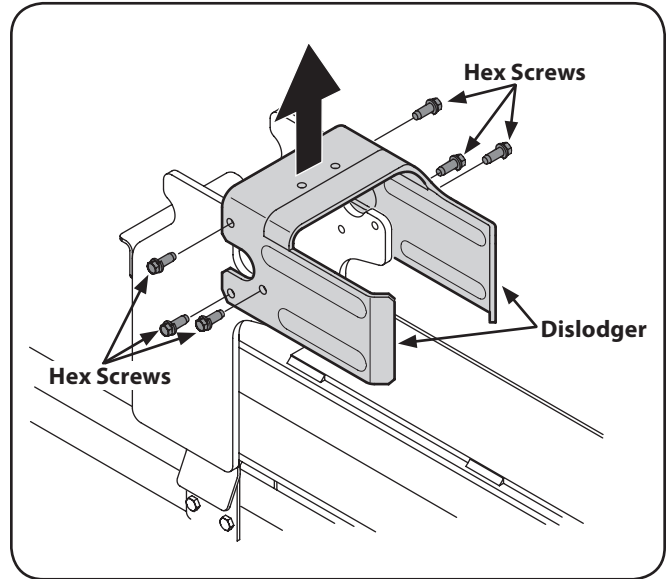

Figure 3-4
- Disconnect the dislodger from the beam weld bracket by removing the six hex screws. See Figure 3-4.
- Attach the dislodger over the wedge assembly and secure it to the weld brackets with the previously removed hardware. See Figure 3-4.